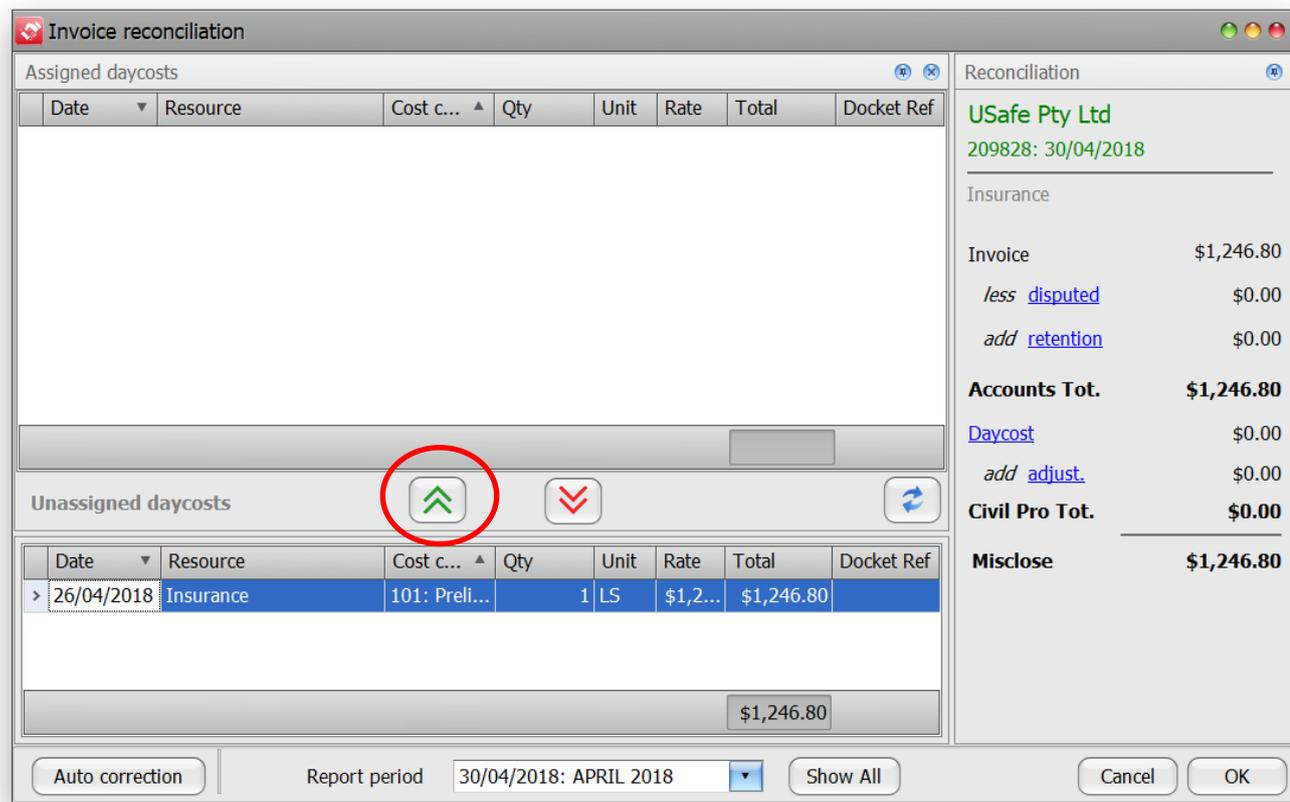

Figure 75 Assigning daycosts to an invoice
2. The Invoice Reconciliation screen will appear. At the bottom of this screen will be all of the unassigned daycosts that match the Usafe supplier. Select the green chevrons to assign this invoice to this daycost (Figure 75)